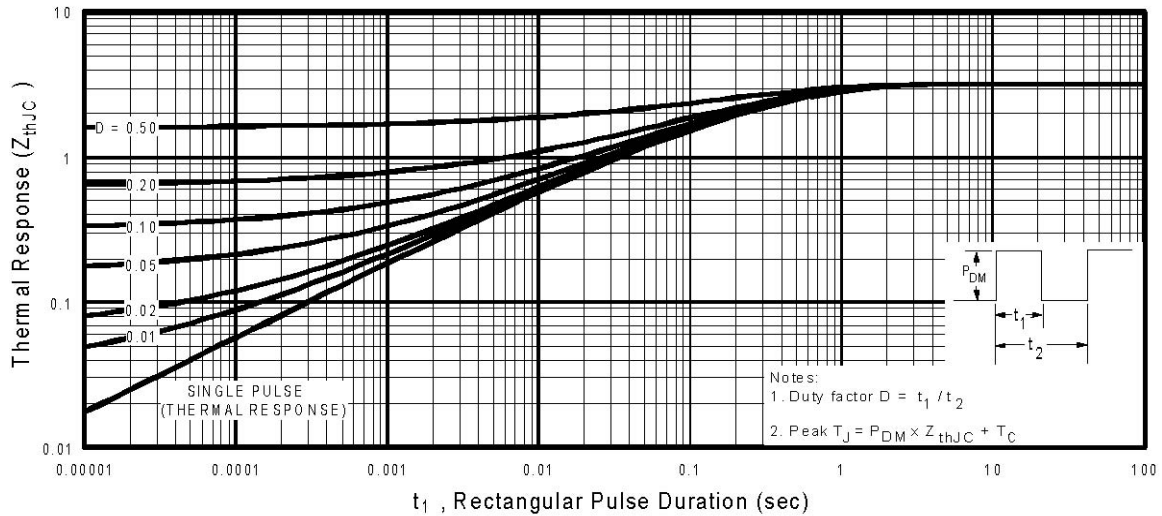

Fig 11. Maximum Effective Transient Thermal Impedance, Junction-to-Case
- ① Repetitive rating; pulse width limited by max. junction temperature. (See fig. 11)
② V_{DD} = 15V, starting T_J = 25°C, L = 220μH